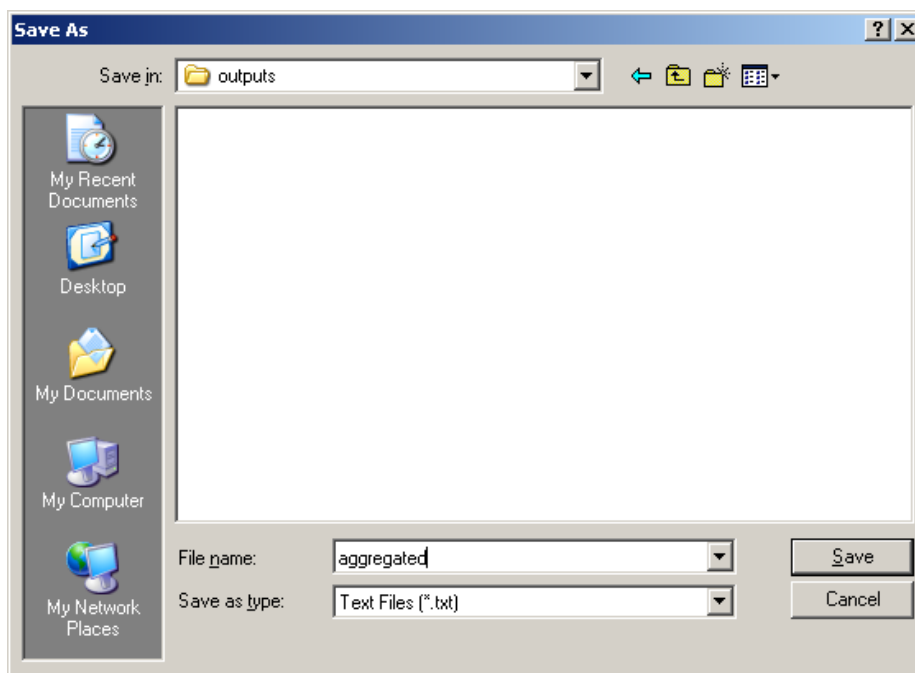

Figure 5-7—Saving the base outputs name.
- c) *Outputs Base Name*: navigate to the outputs folder in the ArcFuels directory and name the base files “aggregated” (fig. 5-7).